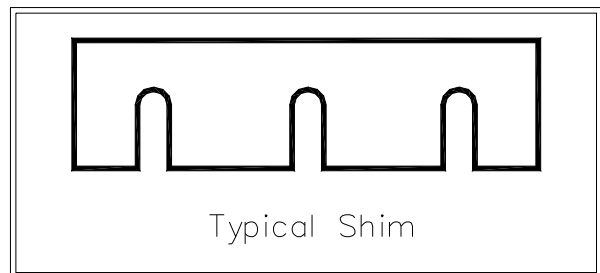

Figure 2-16, Head Section Details
- C. Establish a firm, level, horizontal reference plane common to both ends of the head pulley shaft. Measure from the reference plane to the pillow block mounting surface at each end of the pulley shaft. See **Figure 2-16, Detail A**.
The rubber throat slide, **Figure 2-16, Detail B**, should be positioned so there is 1/4" to 1/2" clearance between the edge of the slide and the outer lips of the buckets. Proper adjustment will minimize one cause of downlegging.